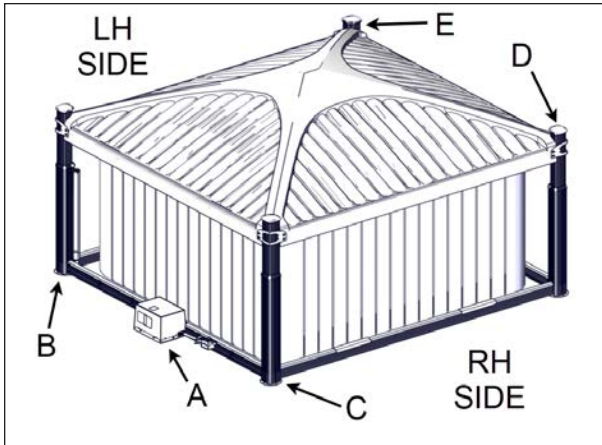

FIGURE 35: OPERATOR AND JACKS INSTALLATION
1. Install the motor frame in place, usually to the opposite side of the spa entrance see Figure 35. The standard model will need the motor frame to be on the short side of the